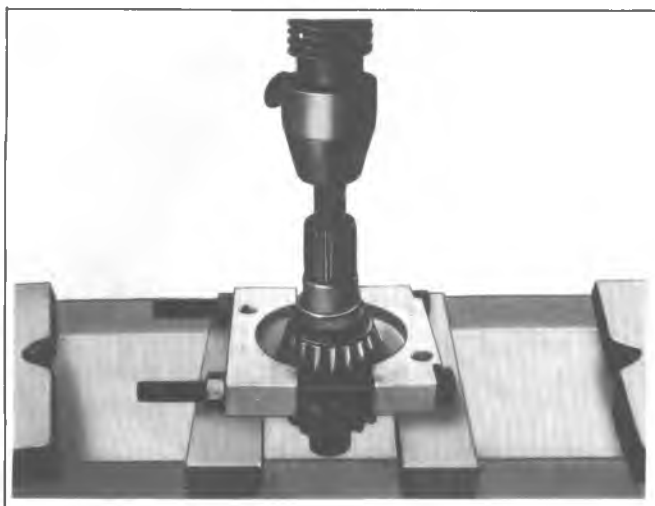

Fig. 11E--Removing Pinion Rear Bearing
8. To remove the rear bearing, use J-22912 as shown in figure 11E.